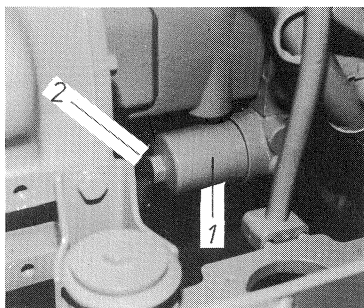

Fig. 47
A pressure filter is located between hydraulic oil tank and axial piston pump (Fig. 47/1).
- Unscrew the filter cartridge by means of a spanner (Fig. 47/2).